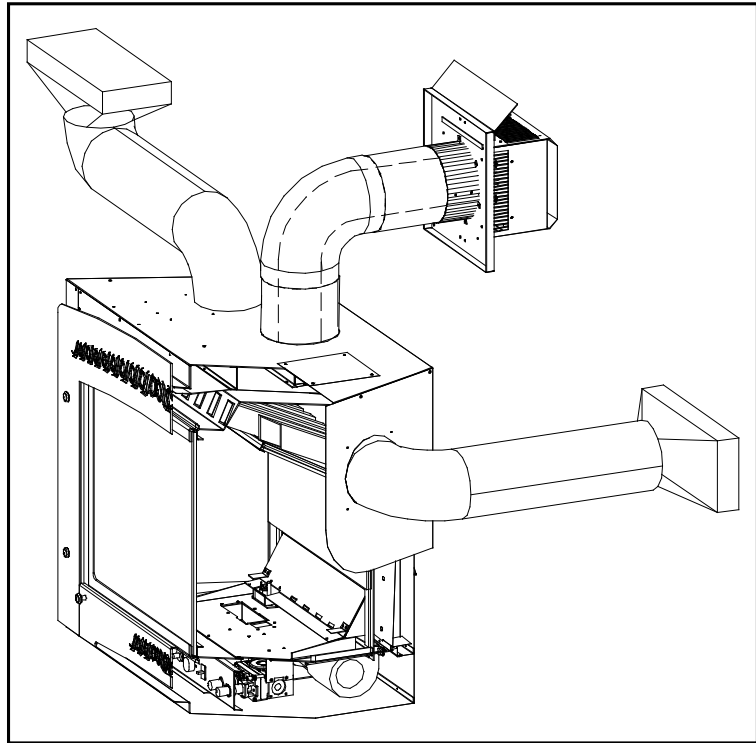

Figure 30. Heat Dumping Options.
The option of ducting allows heat from the fireplace to be transferred to a different area. The maximum total length for the ducting is 20 feet (6.1 m). There are four (4) duct outlets that can be used (see Figure 30), however, the blower puts out 200 cfm no matter how many ducts are used. Therefore, the more ducts there are, the less air goes through each one. A short, straight duct maximizes its heating ability as air in the ducts is restricted by the length and number of bends in the pipe.